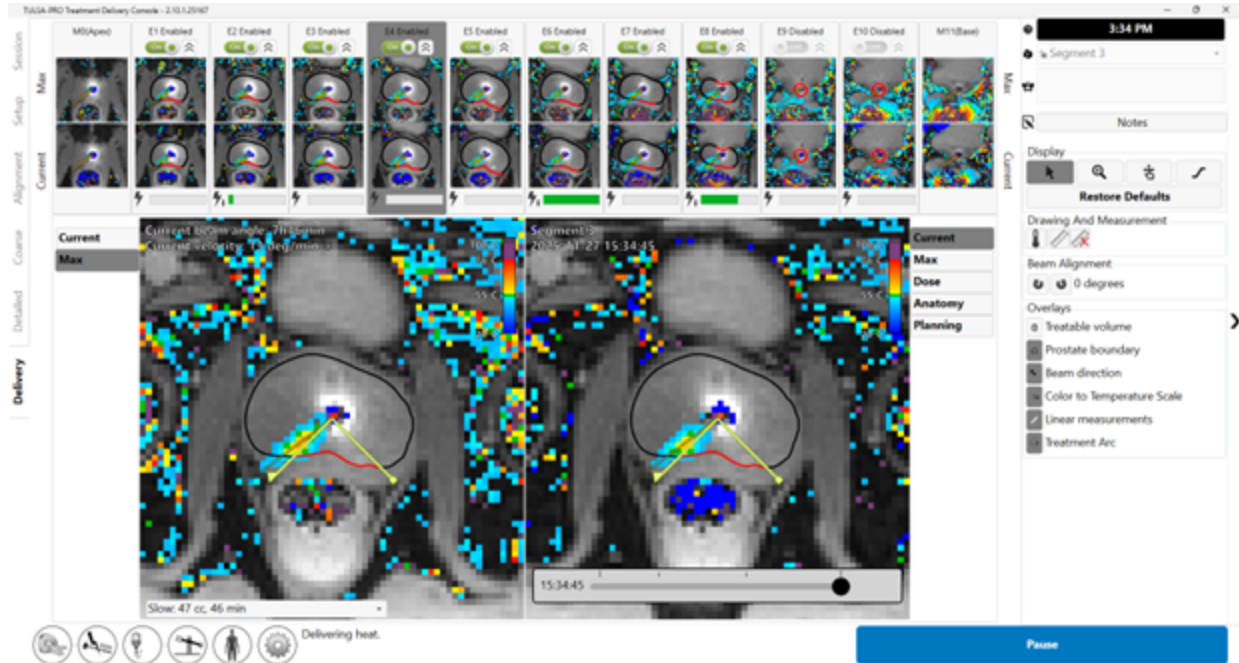
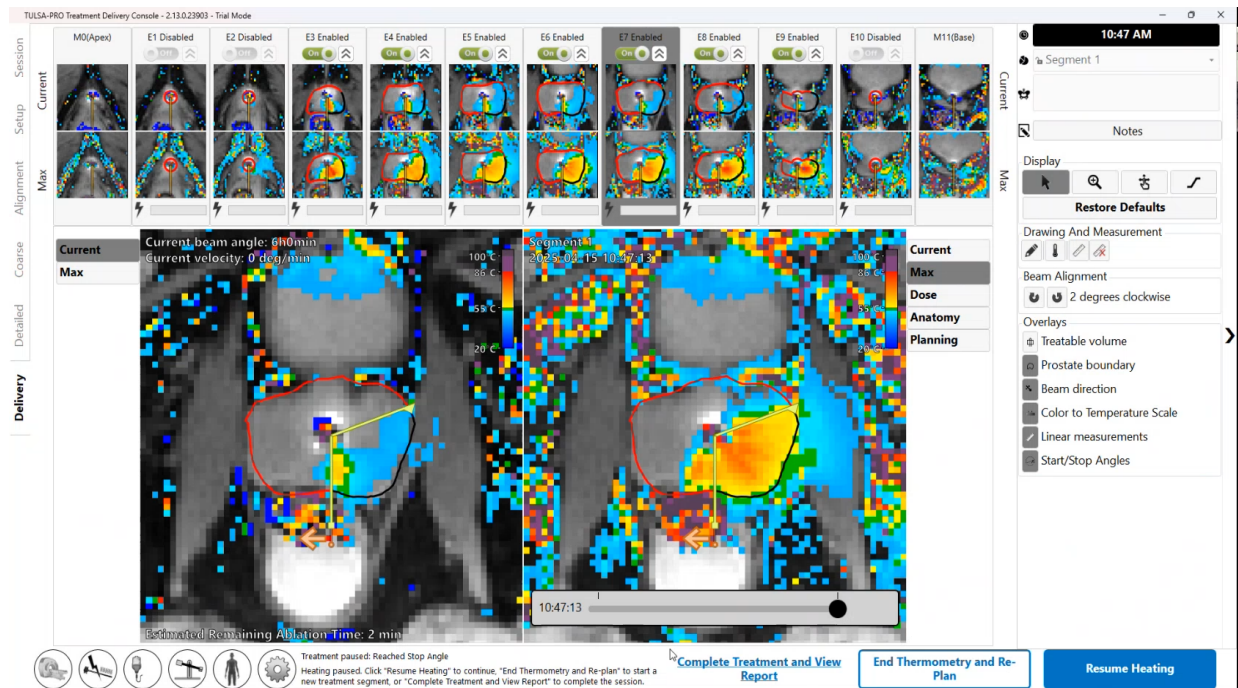

Figure 45: Ultrasound heating has begun
Figure 51: Delivery workspace with treatment and heating paused
**Radiologist:** After receiving 25 thermometry dynamics, heating begins (*Figure 45*). Throughout the ablation, actively monitor real-time treatment images on all slices, ensuring that:
Radiologist: At any time during Delivery, click **Pause** in the bottom-right corner of the screen (see *Figure 45*). While in the paused state, all heating from the UA is suspended while thermometry acquisition continues (*Figure 51*).